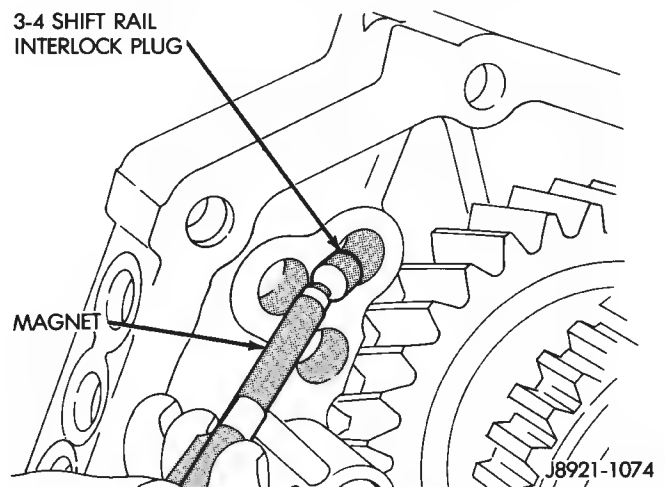

Fig. 45 Removing 3-4 Shift Rail Interlock Plug
- (5) Remove 3-4 shift rail interlock plug from intermediate plate with magnet (Fig. 45).